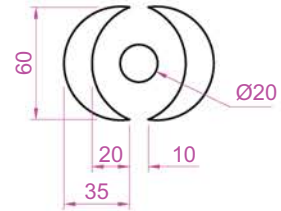

Fig. 6.18 Second example – the drawing to be arrayed
1. Construct the drawing Fig. 6.18.